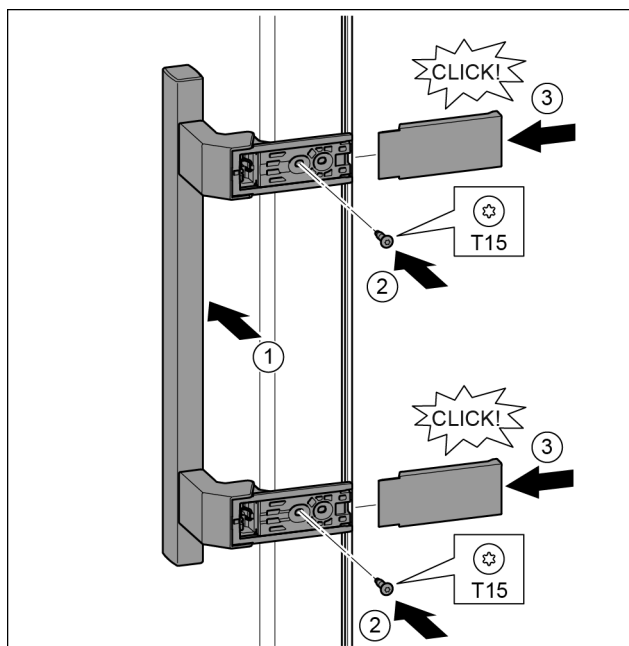

Fig. 37
- Position the handle on the other side. Fig. 37 (1)
- Tighten the screws with the T15 screwdriver. Fig. 37 (2)
- Position the covers on the side and push in. Fig. 37 (3)